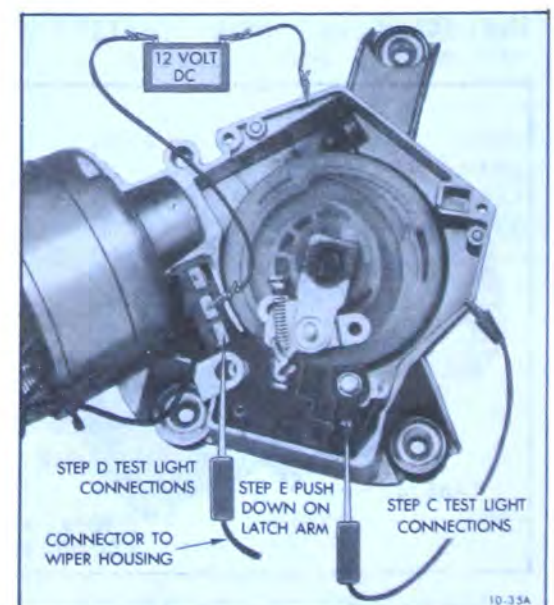

Figure 10-57 Test Light Checks
b. Connect 12V power source to wiper - hot side to center terminal, ground side to gear housing. See Figure 10-57. Do not connect jumper to Terminal 1 and 3.
c. To determine if wiper circuit to relay switch is complete, connect test light to relay switch terminal as shown in Figure 10-57.
(1) Test Lamp Lights. Circuit from Terminal No. 2 to relay - switch O.K.
(2) Test Lamp Doesn't Light.
d. To determine if relay coil is open connect test lamp to wiper Terminal No. 1, Figure 10-57.
e. Test relay switch as follows: If gear mechanism is in full park position, use a small screwdriver in the switch slot and push latch arm down toward relay coil. See Figure 10-57. Next, remove a small amount of insulation from black lead with pink tracer and touch test lamp to exposed wire.
(1) Test lamp lights but motor doesn't run - proceed to Step (f).
(2) Test lamp doesn't light - relay-switch defective.